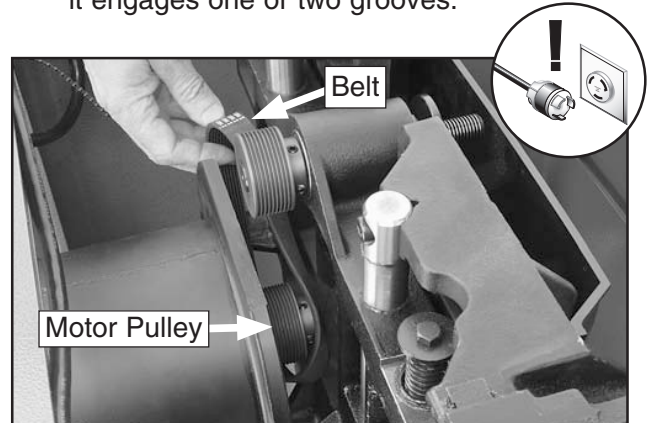

Figure 153. Installing belt.
8. Turn the new belt sideways and slip it over the motor pulley, as shown in **Figure 153**, so it engages one or two grooves.